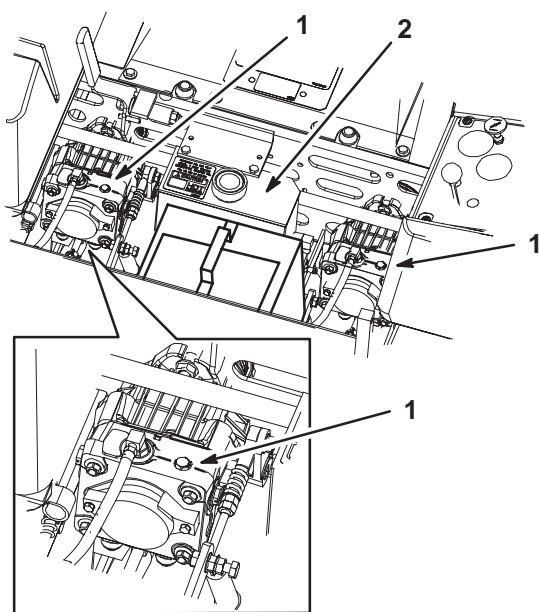

Figure 28
2. Rotate the by-pass valves counterclockwise 1 turn to push. This allows hydraulic fluid to by-pass the pump enabling the wheels to turn (Fig. 28).
Rotate the by-pass valves clockwise 1 turn to operate the machine (Fig. 28).